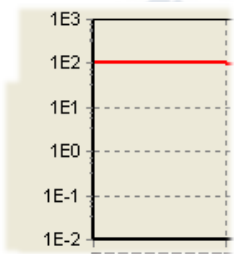

Figure 6.6.6 Logarithmic scale example
-  Logarithmic. Switches the vertical scale to logarithmic. Short cut: <Ctrl> + <M> (figure 6.6.6)